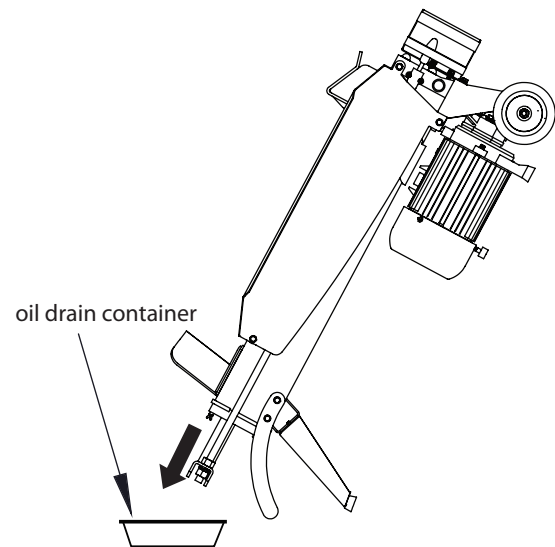

Figure 10
3. Turn the log splitter on the support leg side over using a one gallon or larger capacity container to drain the hydraulic oil. **(SEE FIGURE 10)**